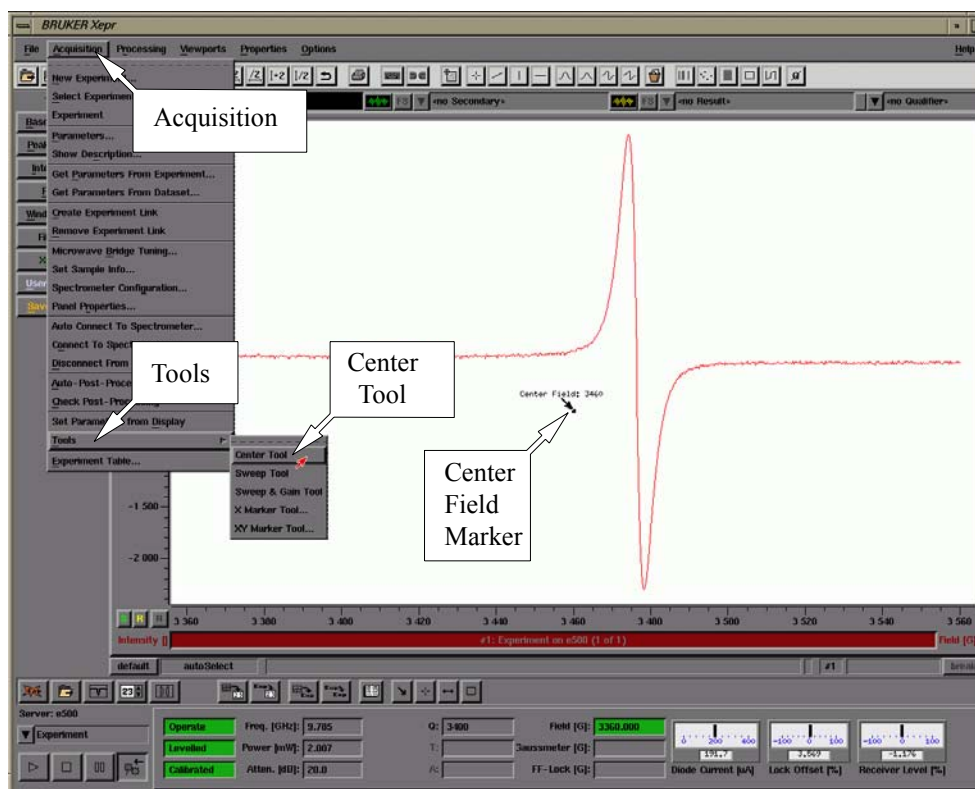

Figure 3-21 The Center Tool.
11. **Center the spectrum.** You may notice that the EPR line is not nicely centered. The next step will help you center your spectrum. To interactively set the center field, click Acquisition > Tools, and then the Center Tool in the menu bar. (See Figure 3-21.)